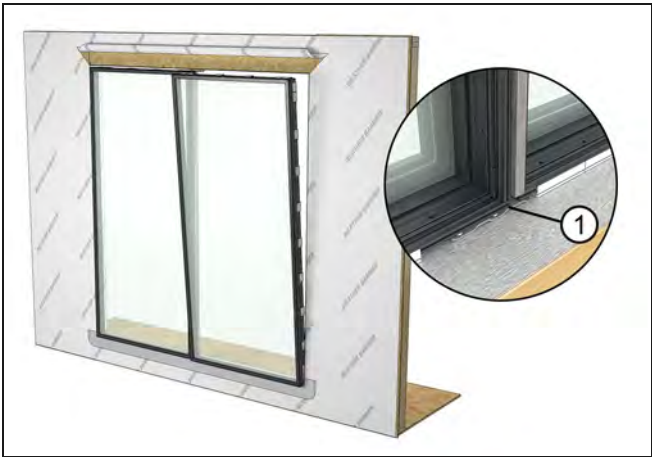

Figure 22 Set second unit and align frames (inset)
13. Set the second unit in place in the opening. Align the frames and clamp. See Figure 22 and Figure 23.